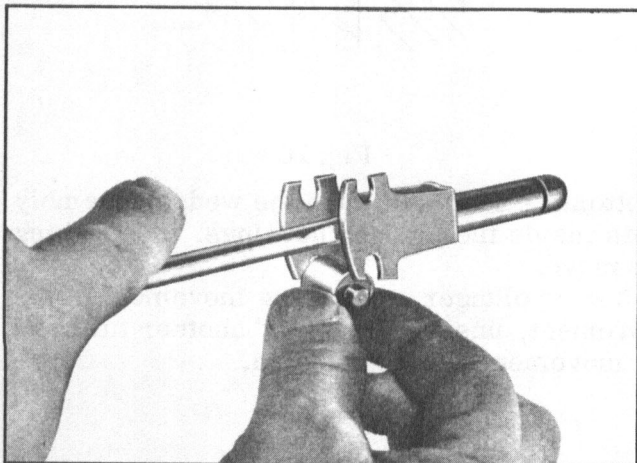

Fig. 13
4. Insert a thin bladed screwdriver between one flat on the wedge head and roller cage (Fig. 13). Spread the cage open just far enough to remove the rollers.